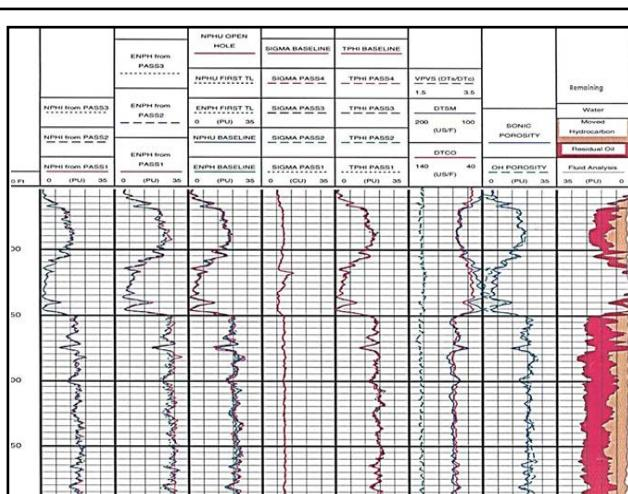

Figure 5: Example of Base Log (Reference) in a Vertical Observation Well
- **Figure 5 shows an example of base logs (Reference) were run before injection in a vertical observation well.**